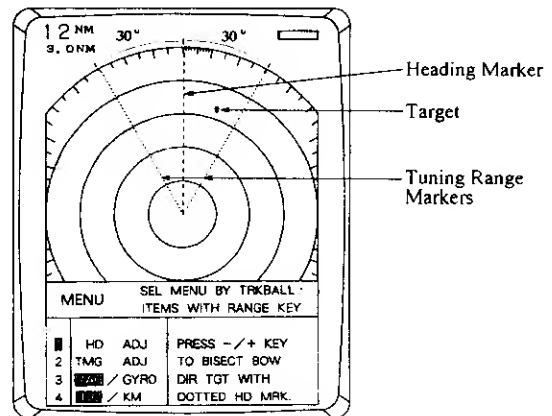

Figure 6-19
10. With the trackball, select "1. HD ADJ". The heading marker and tuning range markers appear. See Figure 6-19.